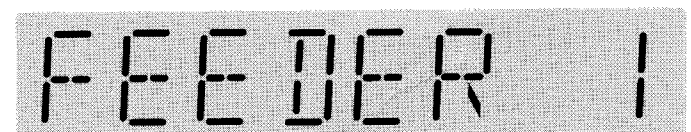

Figure 4-10 Typical New Description Example
Step 8: When the displayed description is acceptable, press and release the **Select** and **Next** pushbuttons simultaneously to enter the new description into memory. The new description appears in the **Description Display** and **Set Description** again appears in the **Function Display** (Figure 4-10).